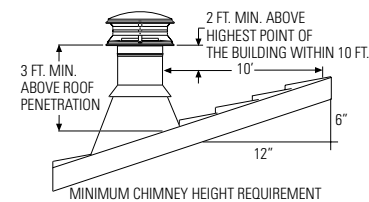

Figure 1
- Determine the minimum chimney height above the roof line. Building codes require a minimum of 3' above the roof penetration and at least 2' higher than any portion of a building within 10'. See figure 1. The termination cap is installed above that point.